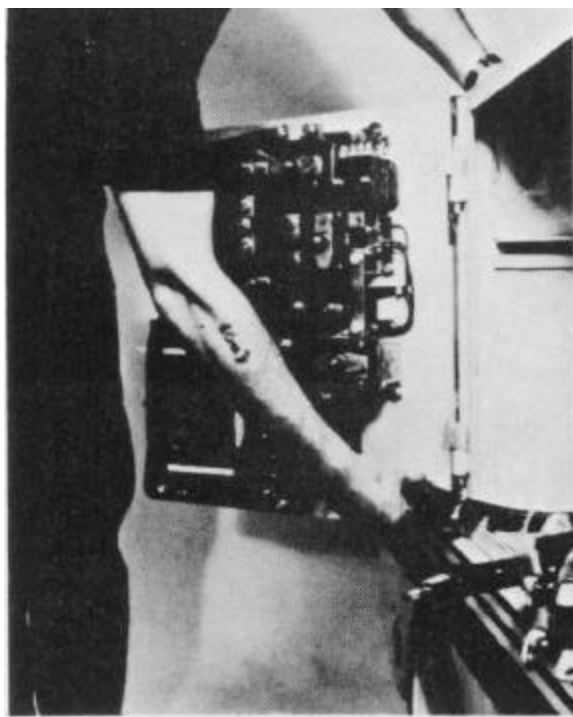
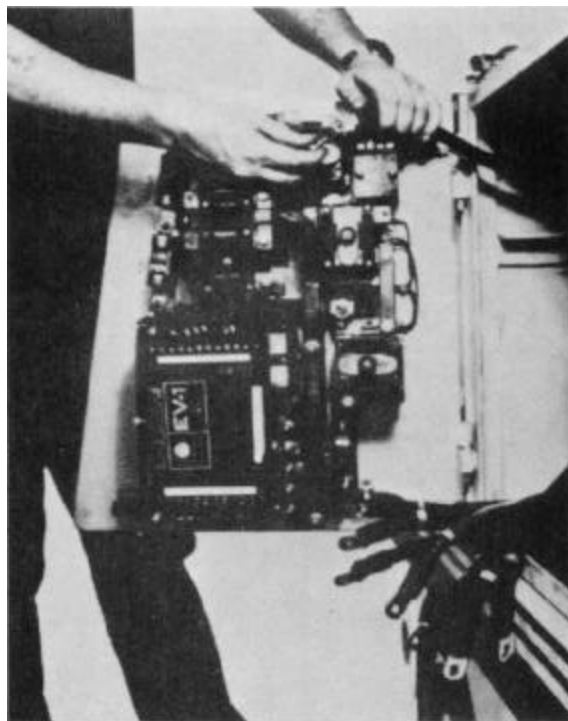

Figure 5-163
Figure 5-164
1. Disconnect (9) electric power cables (Fig. 5-163 Fig. 5-164).